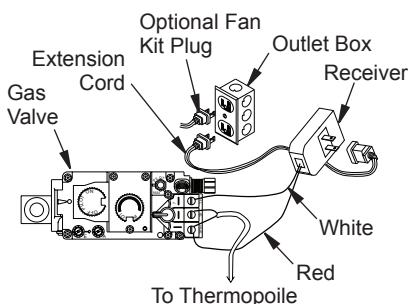

Figure 39 - Installing Remote Receiver (SKYTECH Model)
3. The receiver does not require a battery. To install, plug extension cord into one of the outlet receptacles on outlet box. Plug receiver unit into extension cord and ignition module into receiver unit (see Figure 39).